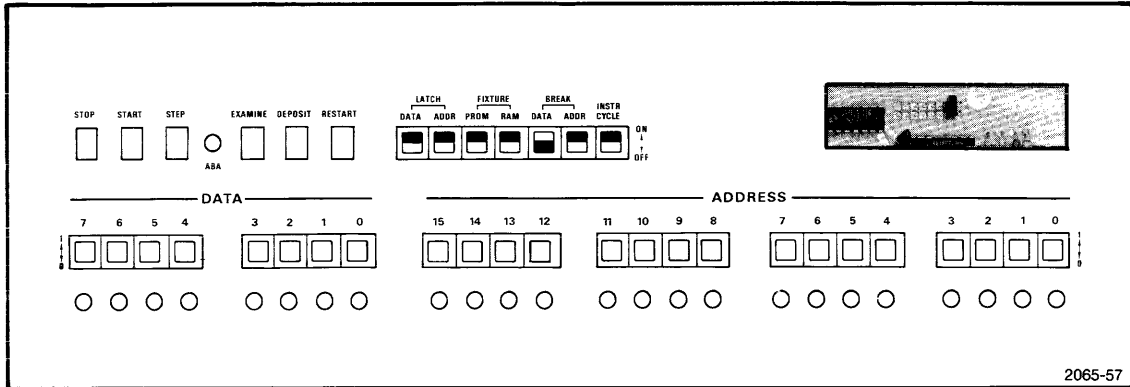

Fig. 5-9.
4. Set the seven control switches to the positions indicated in Fig. 5-9.